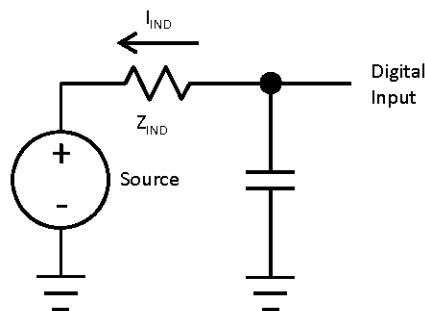

Figure 2. 5 V Tolerant Input IIND Parameter
- Examples calculated using V_{IL} relation, V_{DD} , and max I_{IND} : $Z_{IND} = V_{IL} / I_{IND}$. This is the impedance needed to pull a high signal to a level below V_{IL} due to leakage when $V_{IL} < V_{IN} < V_{DD}$. These examples assume signal source low = 0 V. See Figure 2.